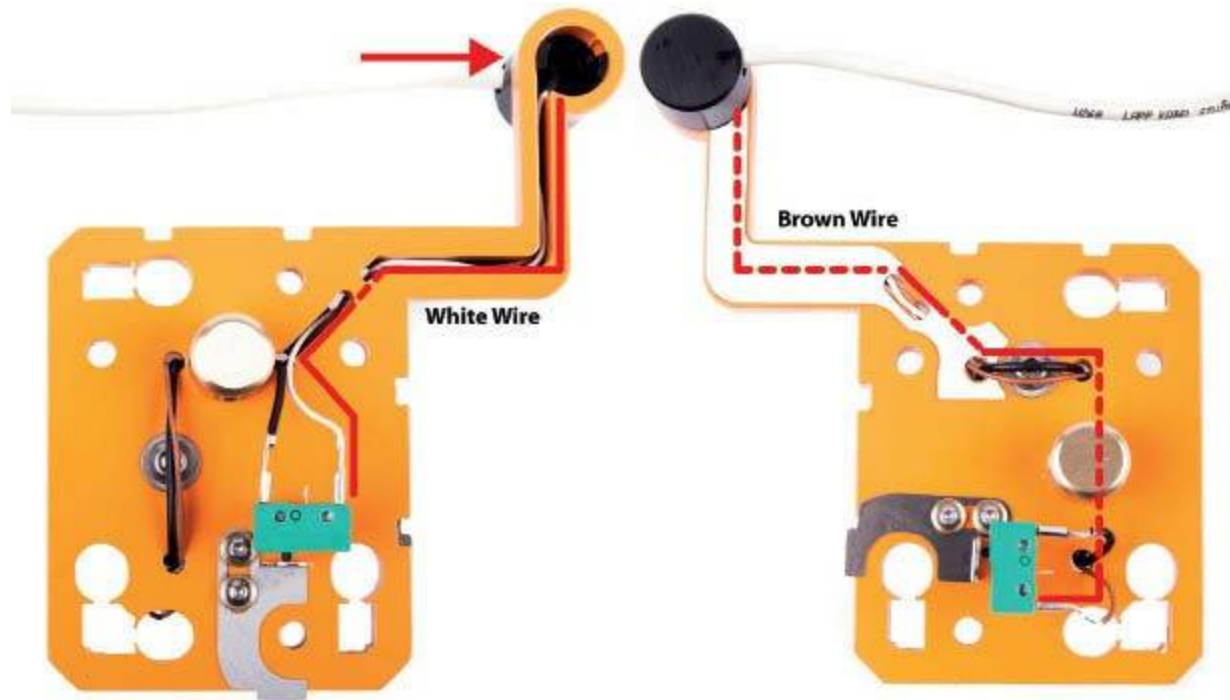

Fig. 2.11 *Fitting the Connector cable*
- 17.** Connect the white wire to the free outer pin on the end switch. Thread the brown wire through the two other holes, as shown in figure 2.11, and connect it to the other free pin.